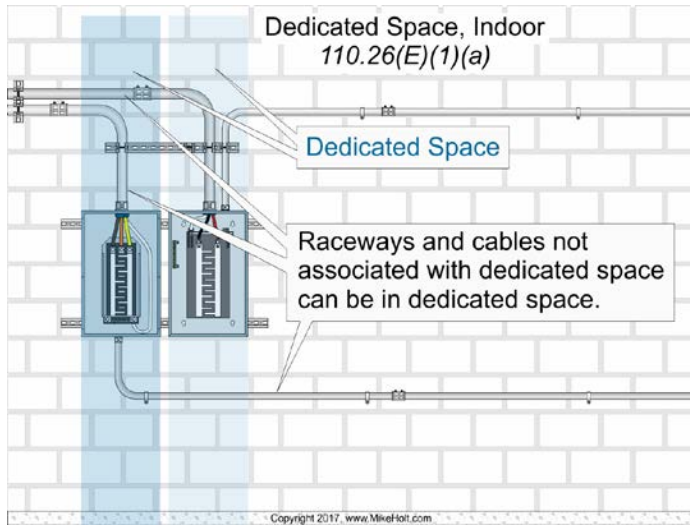

Figure 110-46
- Electrical raceways and cables not associated with the dedicated space can be within the dedicated space. These aren't considered "equipment foreign to the electrical installation." *Figure 110-46*